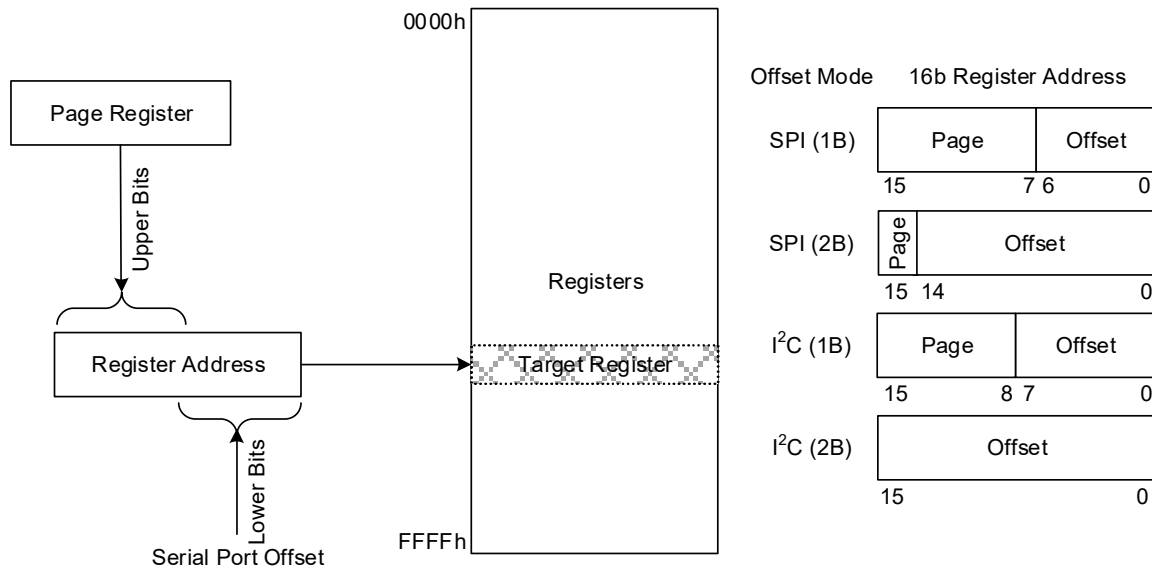

Figure 15. Register Addressing Modes Using Serial Port
You can choose to operate the serial port providing the full offset address within each burst, or to operate in a paged mode where part of the address offset is provided in each transaction and another part comes from an internal page register in each serial port. Figure 15 shows how page register and offset bytes from each serial transaction interact to address a register within the RC32514A.
The selection of 1-byte (1B) or 2-byte (2B) offset addressing must also be configured using the `ssi_addr_size` register field. These offsets are used in conjunction with the page register to access registers internal to the device (see Figure 15). Because the I2C protocol already includes a read/write bit with the Dev Addr, all bits of the 1B or 2B offset field can be used to address internal registers.
- 1-byte (1B) or 2-byte (2B) offset addressing (`ssi_addr_size`) (see Figure 15)